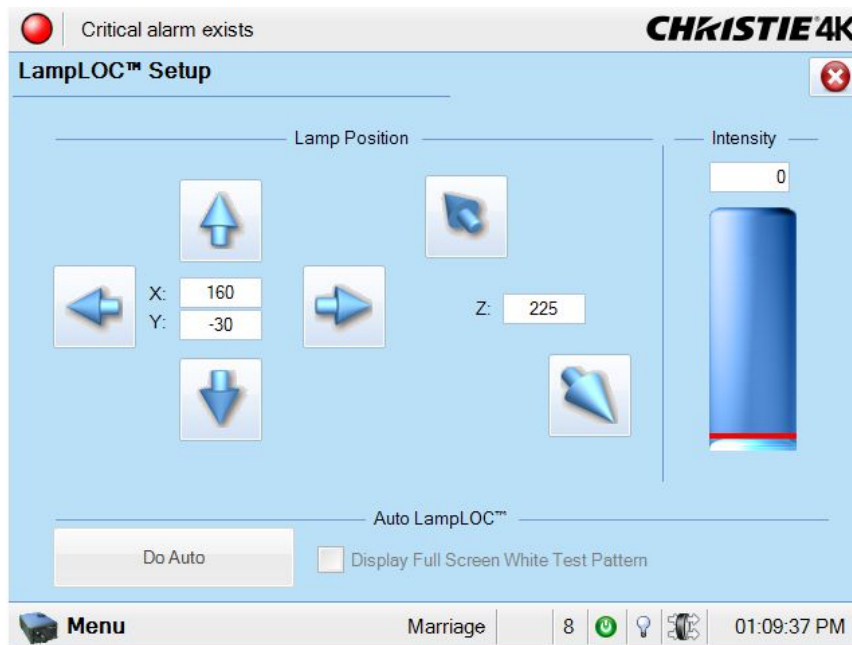

Figure 3-67 Adjust Lamp Position
1. Navigate to the **Advanced Setup: LampLOC™ Setup** window. (Figure 3-67)